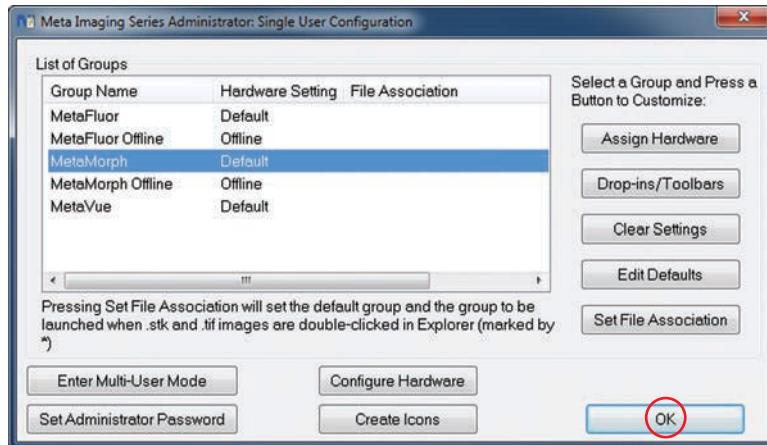

Figure H-19. Close the Program
15. Click **OK** to close the Meta Imaging Series Administrator program, shown in Figure H-19.